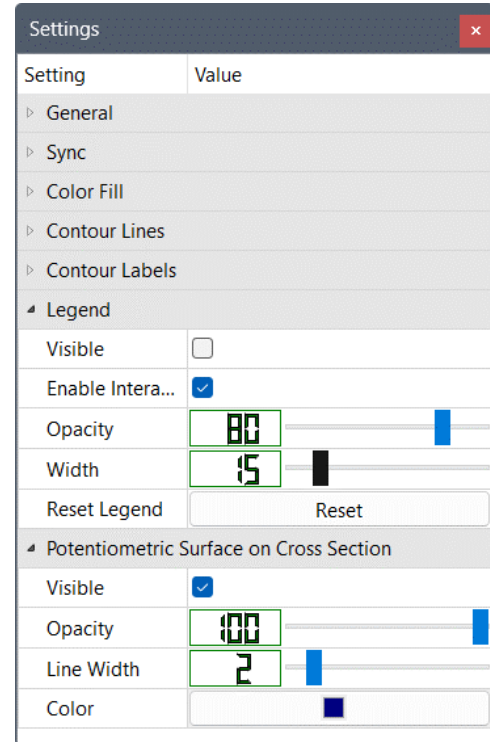

Figure 164. The Legend and Potentiometric Surface on Cross Section groups of the Settings window for Contour Maps
6. Legend (Figure 164)
7. Potentiometric Surface on Cross Section (Figure 164). This group appears only if the result data type is Hydraulic Head. See Section 4.2.2.2 for details.